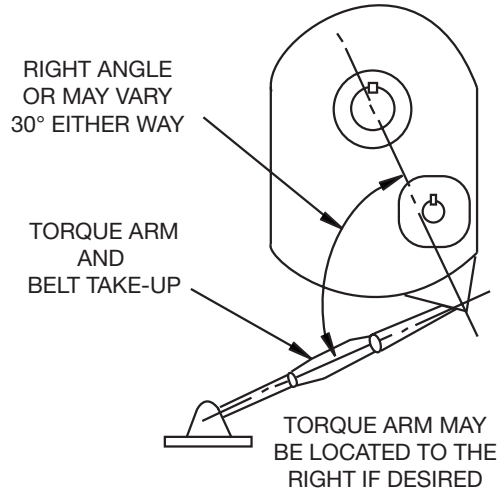

Figure 4 -
- Install torque arm fulcrum on a rigid support so that the torque arm will be approximately at right angles to the center line through the driven shaft and the torque arm anchor screw. (See Fig. 4) Make sure that there is sufficient take-up in the turnbuckle for belt tension adjustment when using V-belt drive.